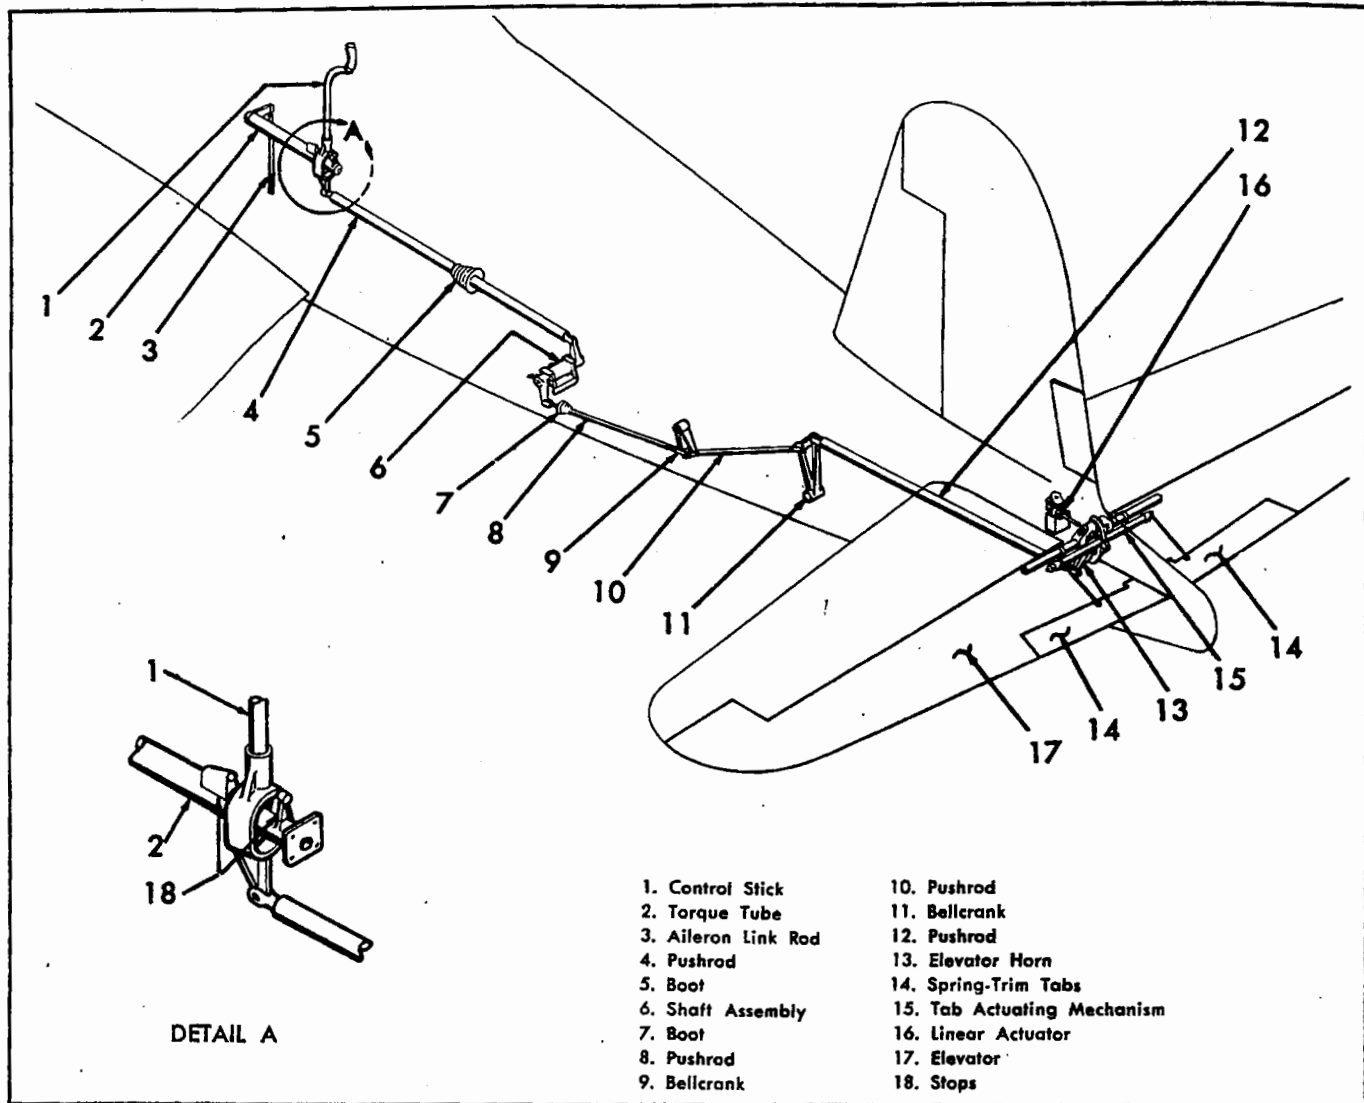

Figure 4-23. Elevator Control System.
4-144. DESCRIPTION. (See figure 4-23.) The elevators are operated by the fore and aft motion of the control stick, the motion being transmitted by means of pushrods and levers to the control horn on the elevators. The control stick is mounted on a torque tube underneath the cockpit floor which provides a fulcrum for the stick in its fore and aft motion in addition to lateral motions. There are four pushrods between the control stick and the elevator horn and they are connected by bellcranks on the bottom of the fuselage. Three protective boots are installed in the system, one at the bottom of the control stick on the cockpit floor, one on the control floor, one on the control rod (4) which passes through the bulkhead 186, and the third on the control rod (8) leading aft from bulkhead 218. The purpose of the boots is to complete the sealing off of the forward
4-148. REMOVING. (See figure 4-23.)
4-151. ADJUSTING. (See figure 4-23.)